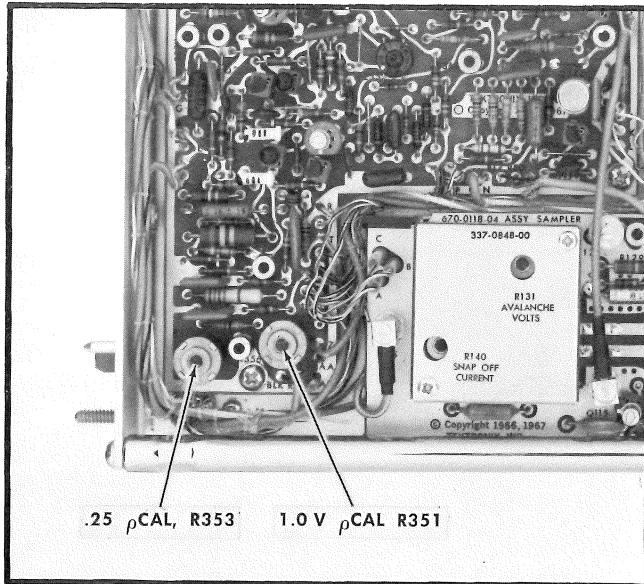

Fig. 7-28. Location of Pulser controls, Vertical circuit board.
g. Adjust the Type 1S2 1.0 V ρ CAL, R351, Fig. 7-28 to position the top of the display to the Test Oscilloscope center line.
- Adjust the Type 1S2 .25 Volt ρ CAL, R353 (Fig. 7-28), to position the top of the Test Oscilloscope display to the graticule center line.